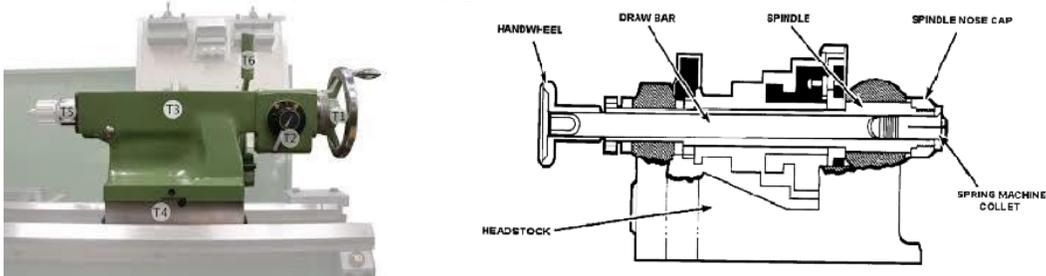

Figure Turn-2: a tailstock
- Tail stock: As in figure Turn-2, it is located on the lathes in opposite direction of head stock, and, it can be adjusted at any position on lathe bed with a screw.